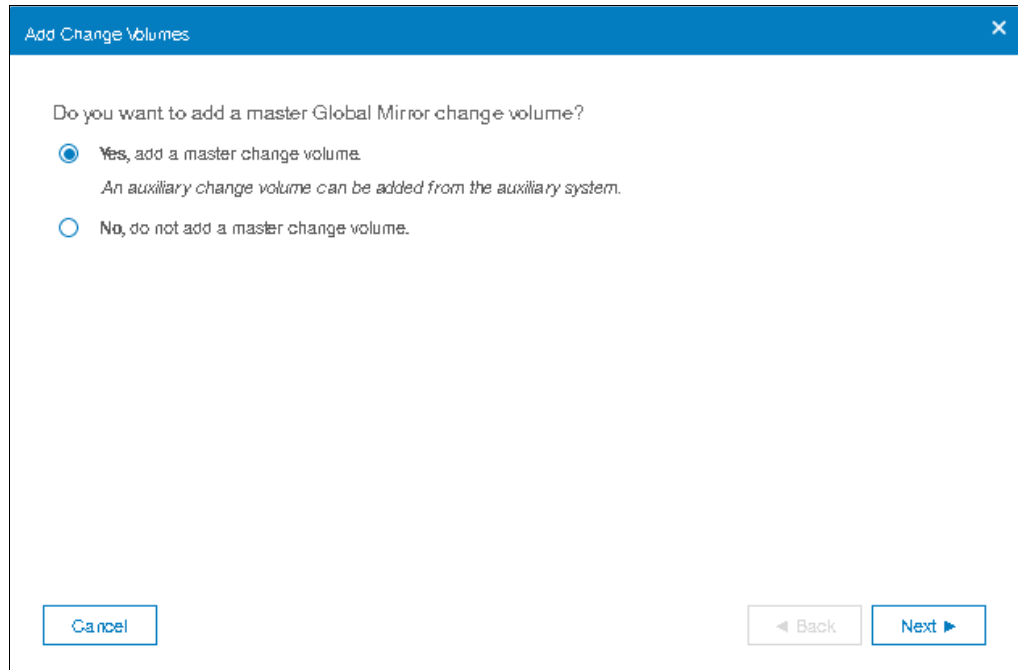

Figure 10-118 Add a change volume
- d. As shown in Figure 10-118 on page 575, select whether you would like to add a change volume or not.